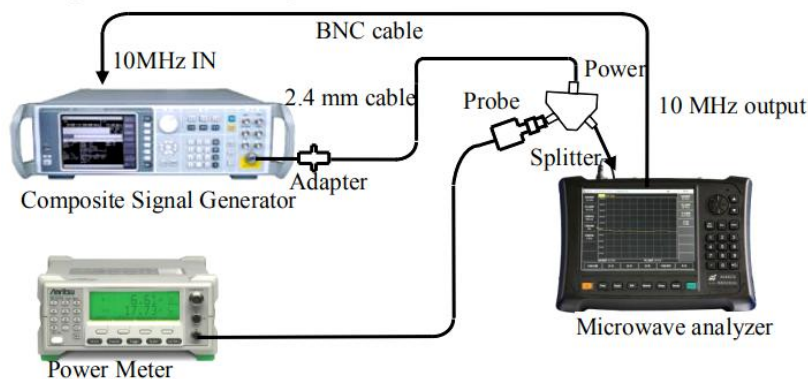

Figure 5-39 Block Diagram of the Test on Overall Absolute Amplitude Precision
Test block diagram as shown in Figure 5-39:
- 2) Connect testing equipment, as shown in Figure 5-39. To be specific, connect the output port of the signal generator to the SUM port of the power divider, and PORT 1 and PORT 2 to the RF input port of the S5105 microwave analyzer and the power probe respectively.